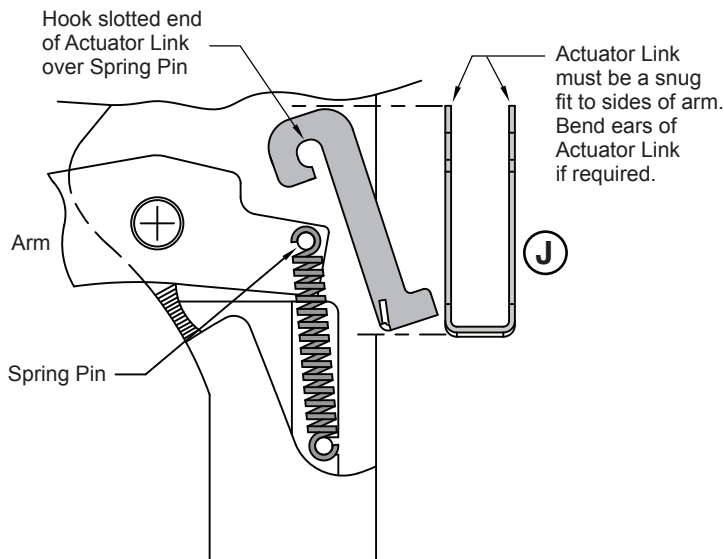

FIG. 14
3. Attach Actuator Link, hook slotted end of **(J)** Actuator Link over Spring Pin (Fig. 14).